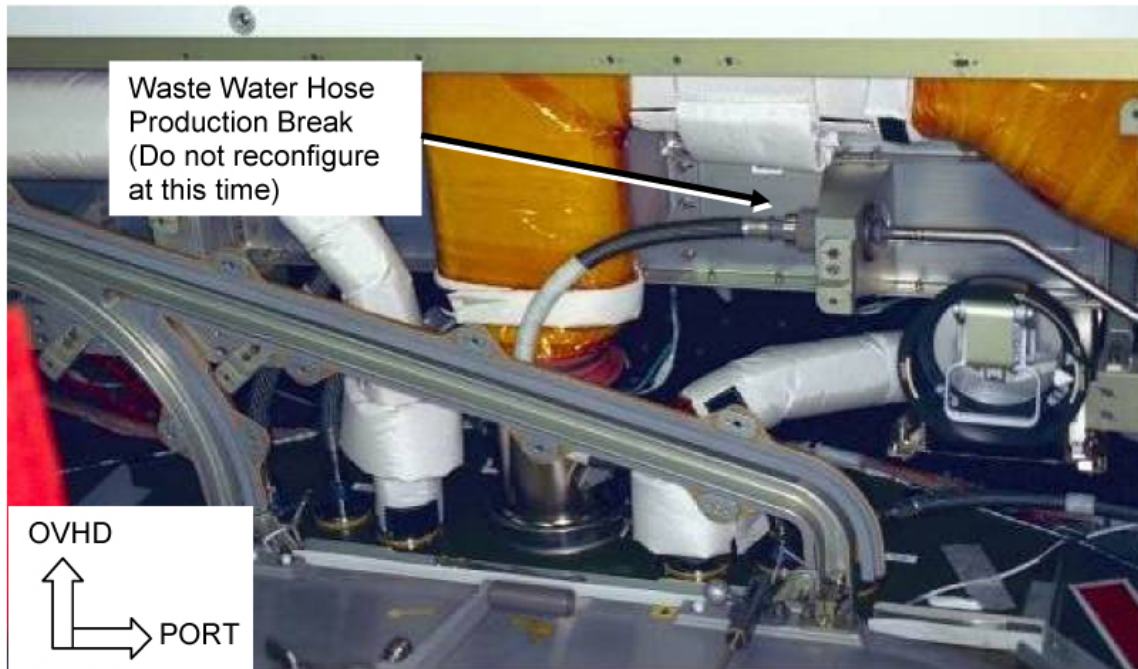

Figure 27. Node 1 Nadir Midbay, Forward Side.
- 15.12 Locate and route NOD1 Waste Water Hose to center of Nadir Midbay. Keeping hose to the port side of the Node 1 Nadir-aft IMV valve, pass QD to second crewmember in Node 1 Deck Radial bay. Restrain NOD1 Waste Water Hose to currently installed hose at production break (QD1E30) (Velcro Tie). Refer to Figure 27.